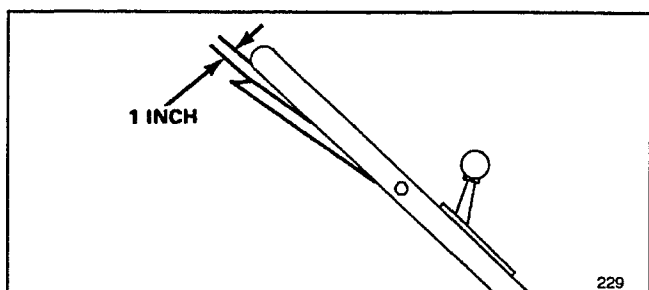

Figure 24
3. CHECK ADJUSTMENT—Slowly pull mower backward while control bar is gradually moved toward handle. Adjustment is correct when rear wheels stop turning and control bar is about 1 inch from handle (Fig. 24).